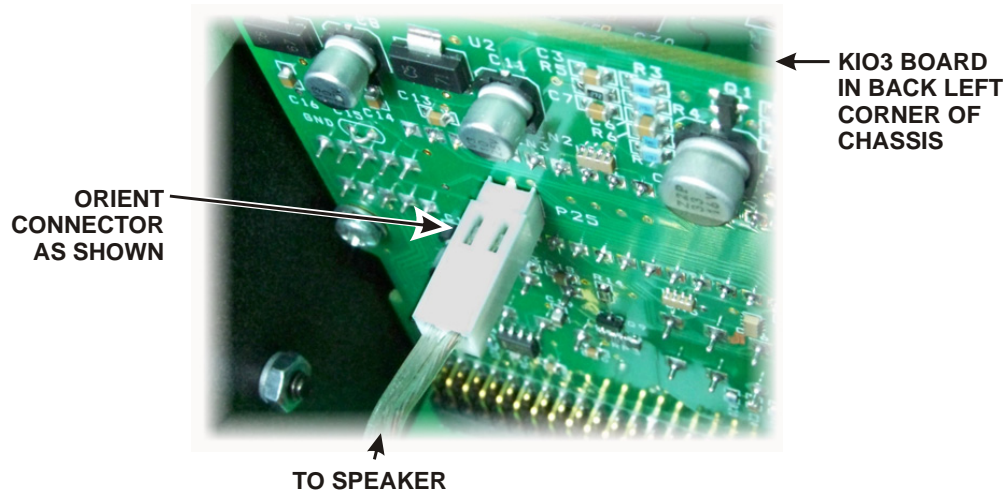

Figure 6. Connecting Speaker Cable.
- Turn the K3 right side up to replace the top cover. Hold the top cover above the K3, route the speaker wire under the stiffener bar and plug it into P25 on the KIO3 board at the left rear of the K3 as shown in Figure 6.